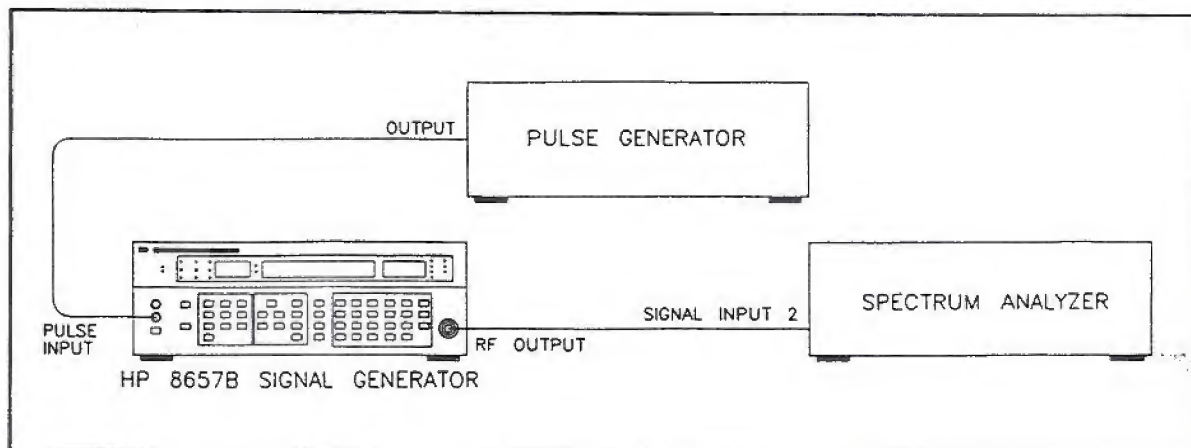

Figure 4-16. Pulse On/Off Ratio Test Setup
39. Connect the equipment as shown in Figure 4-16.